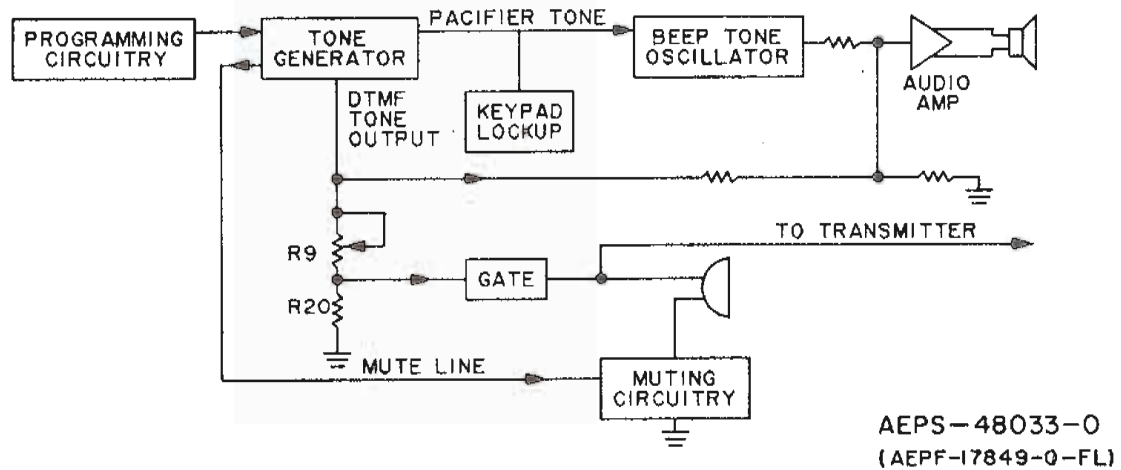

Figure 10. DTMF Option Diagram
k. Dual-Tone Multiple Frequency (DTMF) Circuits (Optional) (See Figure 10)
(1) Timed Tone Option